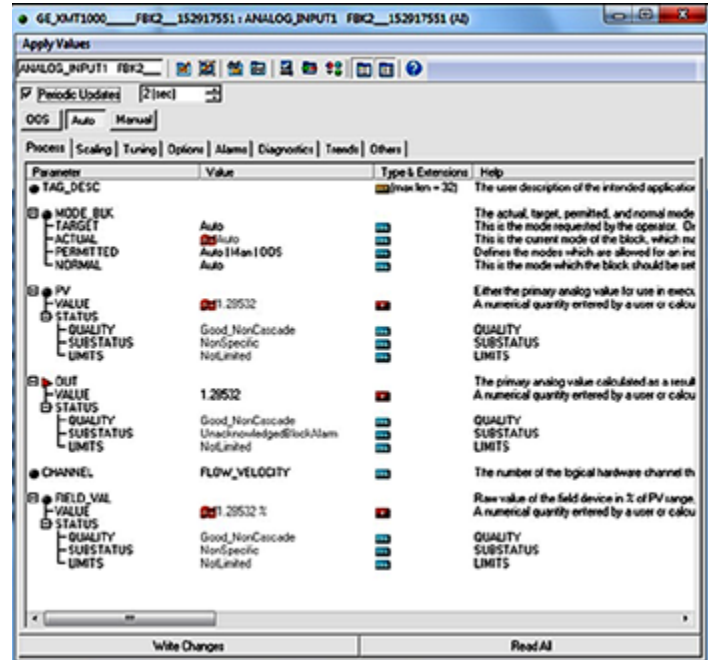

Figure 138: Analog input (AI) block
The Analog Input (AI) Block (see Figure 138 below) is designed as a generalized signal conditioning function. The output from an AI block can be connected to the Fieldbus. The AI block receives and processes data measured by the **Transducer Block** and provides additional functions such as scaling, filtering, alarm generation, and trending.